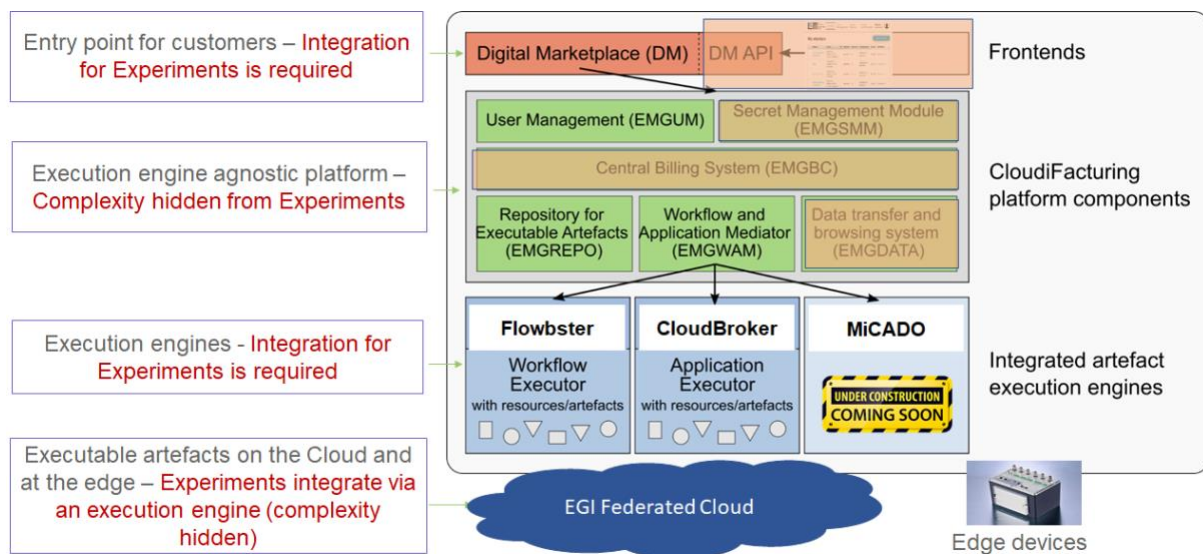
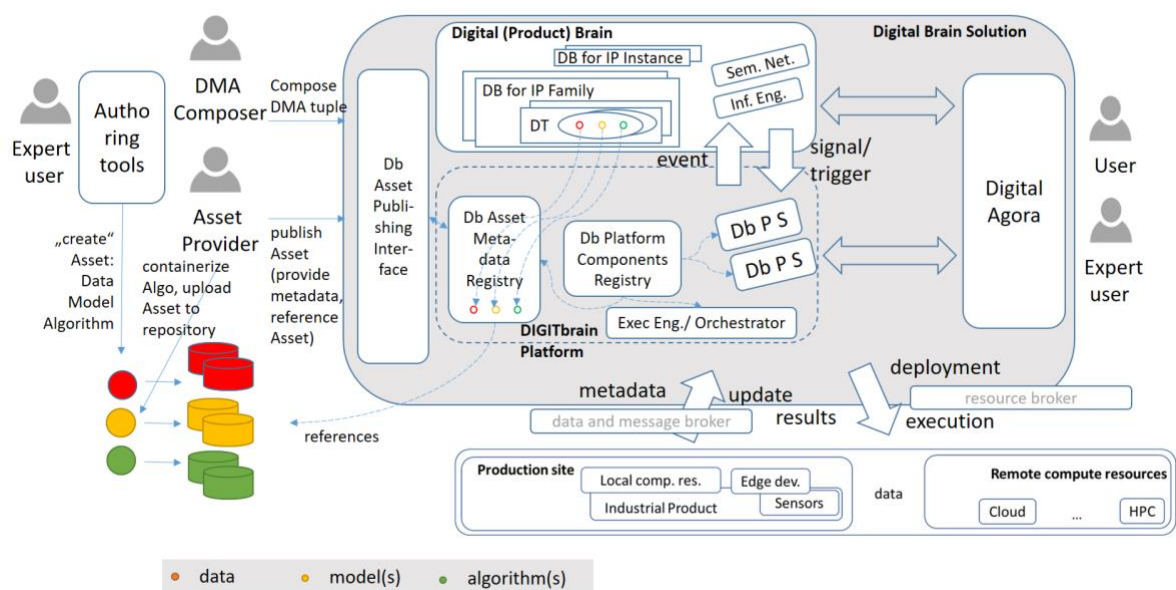

Figure 1 High-level architecture of the initial DIGITbrain Testbed
Figure 2 High-level architecture of the 1st DIGITbrain Solution
A high-level architecture of the initial DIGITbrain testbed is shown in Figure 1. The initial version of the DIGITbrain Testbed is a CloudiFacturing Solution installation – CloudiFacturing being another EC project on which DIGITbrain builds.
Although looking completely different in nature from Figure 1, Figure 2 depicts the DIGITbrain Solution high-level architecture and has many communalities with the testbed architecture:
- The CloudiFacturing Platform Components from Figure 1 are “condensed” into DIGITbrain Platform Services.
- MiCADO², Flowbser and CloudBroker are “anonymised” into Exec. Eng./Orchestrator in Figure 2 – MiCADO will be the main Exec. Engine / orchestrator being used for experiments of wave 2.
- The lower part is similar to the one described in Figure 1: here the remote and local (compute) resources are depicted, either being Cloud resources provided via EGI or local ones residing in the production sites of the respective manufacturing SME. Note, here conceptually the Industrial Products can be found, too. They do not need to reside in a factory building, they can also be utilised "outdoors", e.g. being harvesting robots.
- In comparison to Figure 1, the left part is new. Here, persons acting in different roles are depicted using different tools as explained below. On the left, also the **Asset** types **Data**, **Model** and **Algorithm** are stylized.